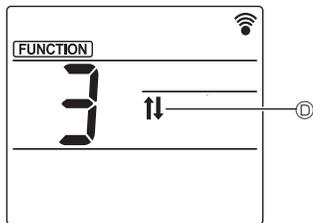

Fig. 5-3
1. In the Function setting screen, press the  button ④ and select function No. "3".
2. Press the  button ③.
- The ascending/descending mark ① blinks. (Fig. 5-3)
3. Press the  button ④ or the  button ⑤.